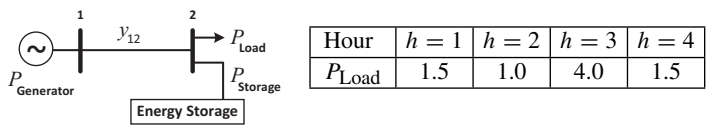
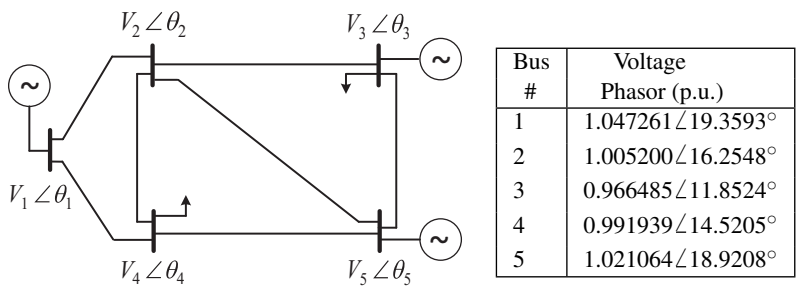

Figure 1.20 The power network and the hourly load (in p.u.) in Exercise 1.15.
Figure 1.21 The power network and the voltage phasors in Exercise 1.16.
- 1.15** Consider the power grid with two buses as shown in Figure 1.20.
- (a) The load factor (LF) for a load profile is defined as the ratio of the average amount of the load to the maximum load. What is the load factor for the load profile P_{Load} based on the table that is provided in this figure?
- 1.16** Consider the 5-bus transmission network in Figure 1.21. The admittance for each transmission line is $0.5 - j10$ p.u. The load at bus 3 is $3.0 + j1.2$ p.u. The load at bus 4 is $2.0 + j0.8$ p.u. There is no shunt capacitor at any bus. The voltage phasors at all buses are also given in the figure.